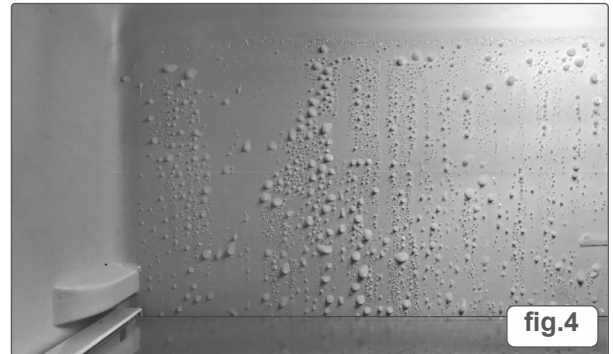

fig.4
- It is normal for some ice droplets to form on the back wall of the fridge, as this is a wet-wall refrigerator (fig.4). This does not indicate a fault with the appliance.